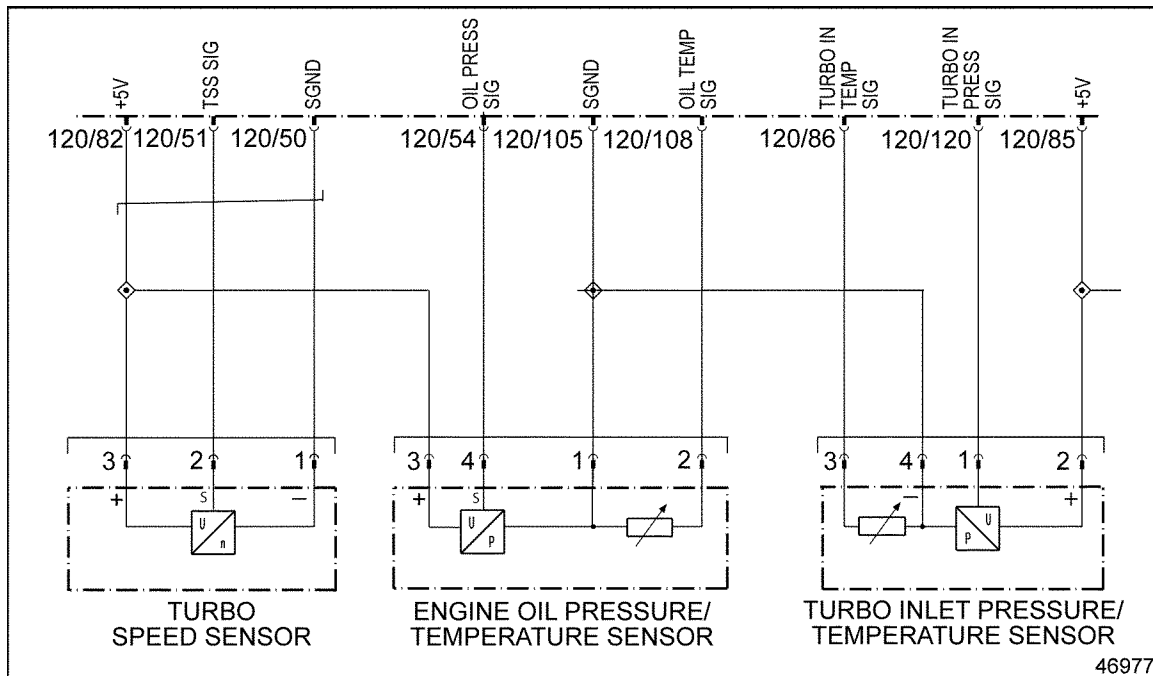

Figure 39-1 Turbo Pressure/Temp Sensor Wiring
- [b] If the resistance is less than 5 Ω , repair the short between wires 120 and 105 of the 120-pin MCM connector. See Figure 39-1. Refer to section 39.2.1.1.
- [a] If the resistance is greater than 5 Ω , repair the open between pin 1 of the Turbo Pressure/Temp Sensor and pin 120 of the 120-pin MCM connector. See Figure 39-1. Refer to section 39.2.1.1.
- [b] If the resistance is less than 5 Ω , repair the short to ground circuit between pin 120 of the 120-pin MCM connector and ground. See Figure 39-1. Refer to section 39.2.1.1.